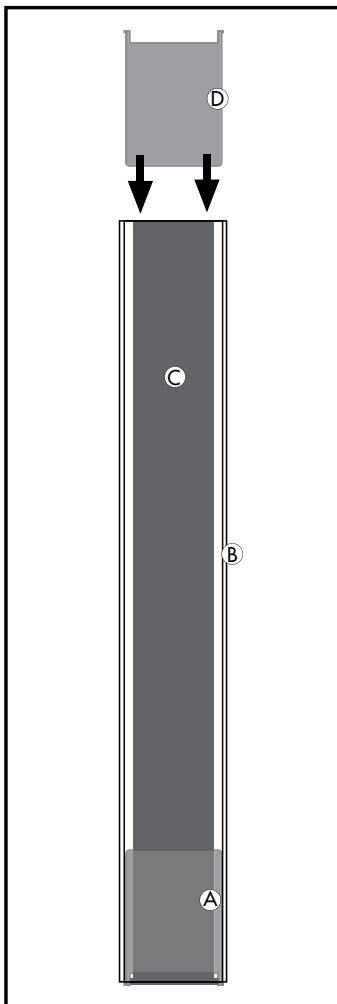

Figure 1
- 6.) Slide post sleeve over the treated wood post (C). Make sure the spacer fits snugly over end of the post (Figure 1).
- 7.) Place second spacer (D) into other end of post sleeve (B) making sure the spacer fits snugly over top end of post (Figure 1).